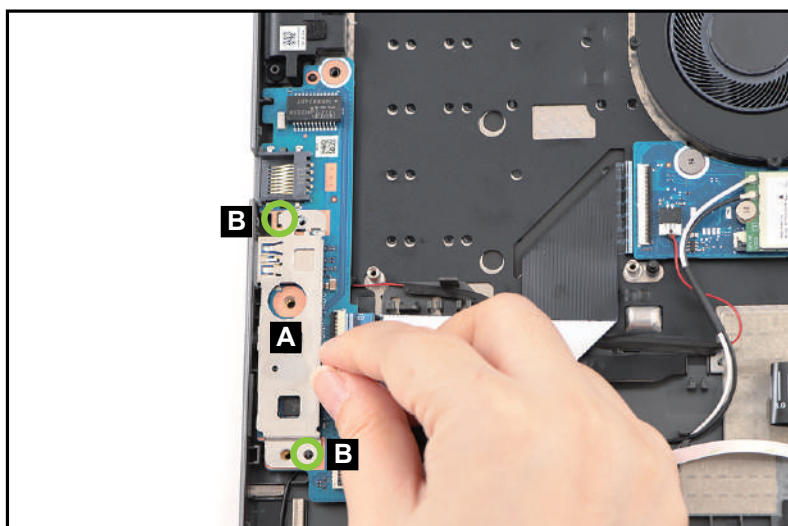

Figure 3-42. USB Board Removal
2. Lift the left IO bracket (A) to release it from the guide pins (B) (Figure 3-42). Then remove the IO bracket.